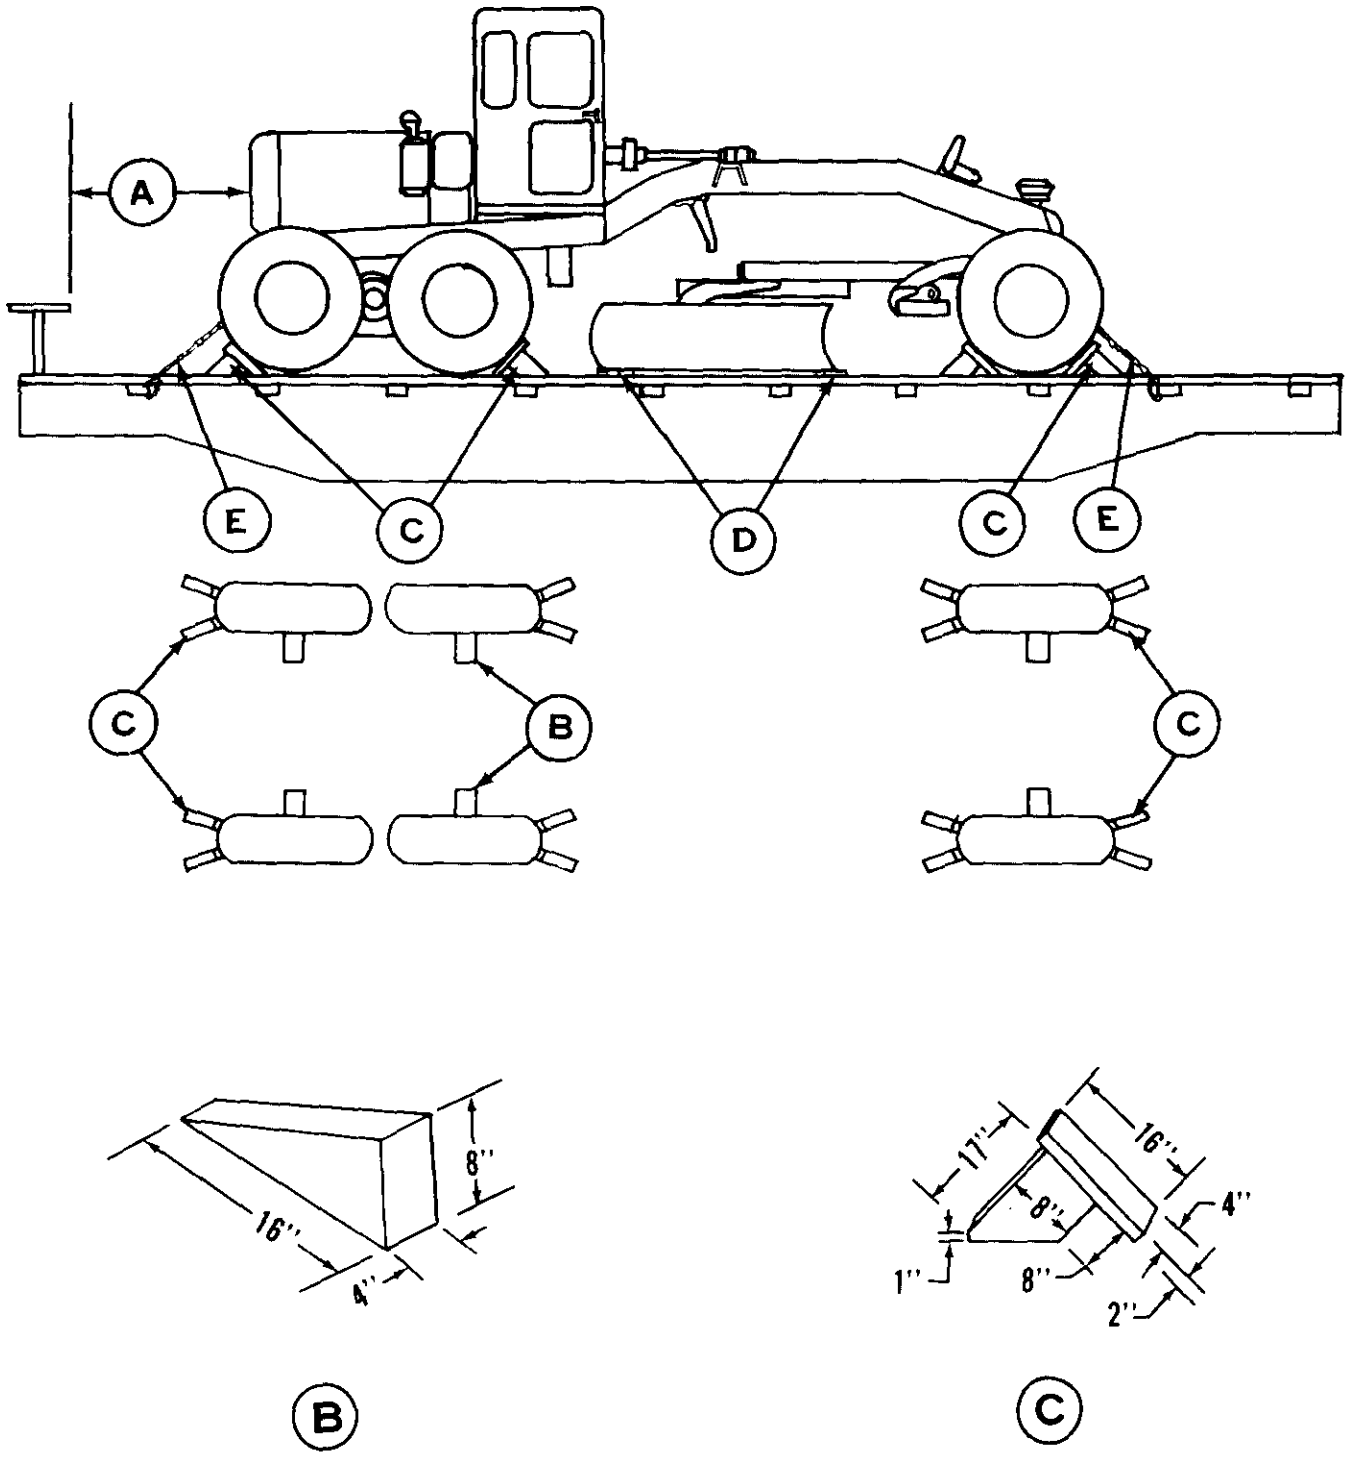

Figure 7-1. Model 130G grader loaded on a general purpose flatcar.
The transportability guidance contained in this section is applicable when the model 130G grader is transported on CONUS railways. Figure 7-1 shows the model 130G grader loaded on a wooden deck, general-pur-
(Fig 7-1)
- (1) Use a qualified, experienced driver to check the brakes. Secure the scarifier in the up position.
- (2) Ensure that the articulating pivot pin and the front wheel lean locking bolt are engaged.
- (3) Use an experienced guide. The guide should be on the next car over from the car to be loaded; never on the same car. Also, the guide should never back up.
- (4) Use ground guides on each side of the grader, in clear view of the primary guide on the car.
- (5) Use only the guide on the car to signal the driver.
- (6) After the grader is stopped in the loading position on the flatcar, place the transmission shift lever in the neutral position and set and wire the handbrake.
(7) Lower the blade onto the sleeper shoring to protect the top of the flatcar. Make sure the blade is turned well within the width of the flatcar.
(8) Have the rail inspector check the positioning of the grader. The center of balance and position of other loaded equipment must be considered.
c. *Securing.* The procedures for securing the grader on the flatcar (fig 7-1) are in accordance with the American Association of Railroads. The sequence of securing the grader is as follows: (1) Place wire rope or chains or tiedowns but leave them loose.
(2) Make sure the blade is positioned firmly on the bearing pieces.
(3) Place chocks in front of front and middle tires, and nail the chocks in place.
(4) Tighten front wire rope or chains.
(5) Place chocks in back of front and rear tires, and nail the chocks in place.
(6) Tighten rear wire rope or chains.
(7) Double check to make sure bearing pieces are secure under the blade. Nail shoring in place.
(8) Check to make sure wire rope or chain tiedowns are tight.
(9) Make sure all windows are secured, and wire the door handle shut from the outside.
(10) Have the rail inspector check before considering the job complete.